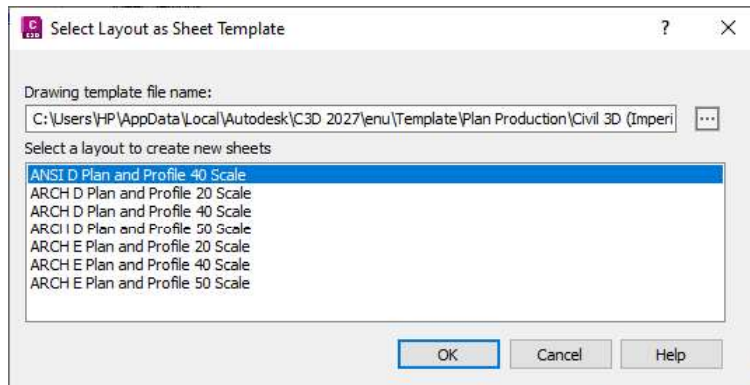

Figure 13-16 The Select Layout as Sheet Template dialog box
5. In the **Sheet Settings** area of the **Sheets** page, select the **Plan and Profile** radio button. Next, choose the browse button displayed on the right of the **Template for Plan and Profile sheet** edit box; the **Select Layout as Sheet Template** dialog box is displayed, as shown in Figure 13-16.